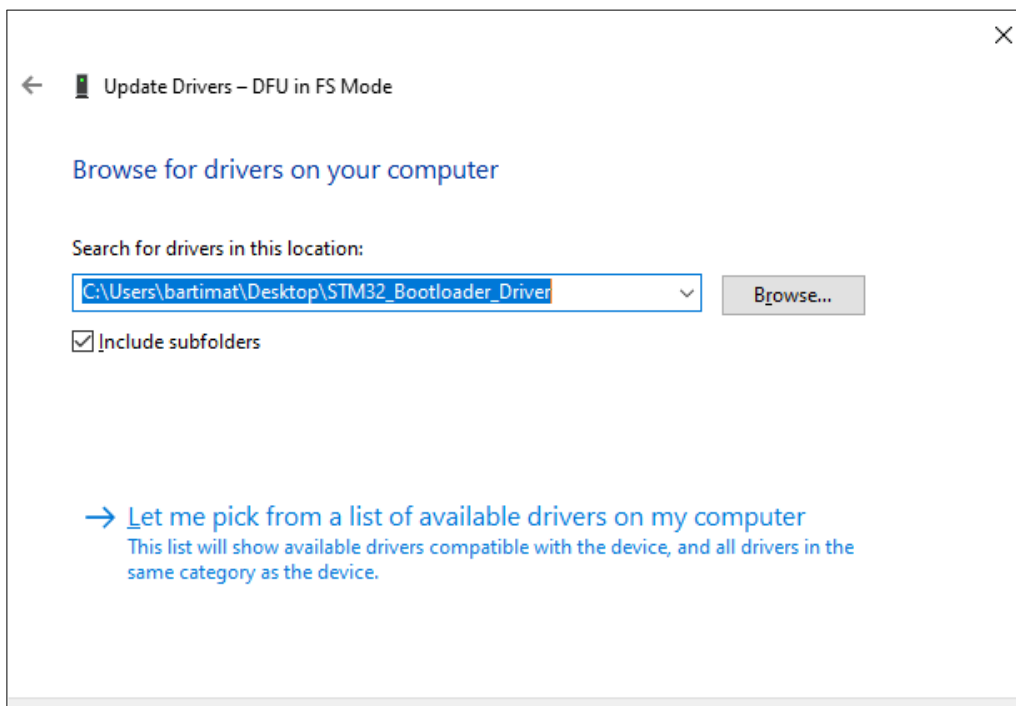

Figure 14: Locate the provided "STM32_Bootloader_Driver" directory.
- 4 Browse for the "STM32_Bootloader_Driver" directory (have the option "Include sub-folders" checked (see Fig. 14) and press Next).